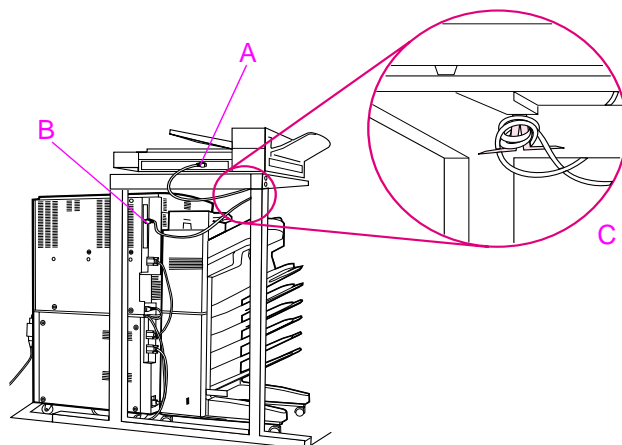

Figure 6-192 View with HP Digital Copier Stand (preferred configuration)
- 2 Plug the other end of the Copy Connect cable into the Copy Connect EIO Board (B).
- 3 Wrap the excess cable as shown in figure 6-192(C).